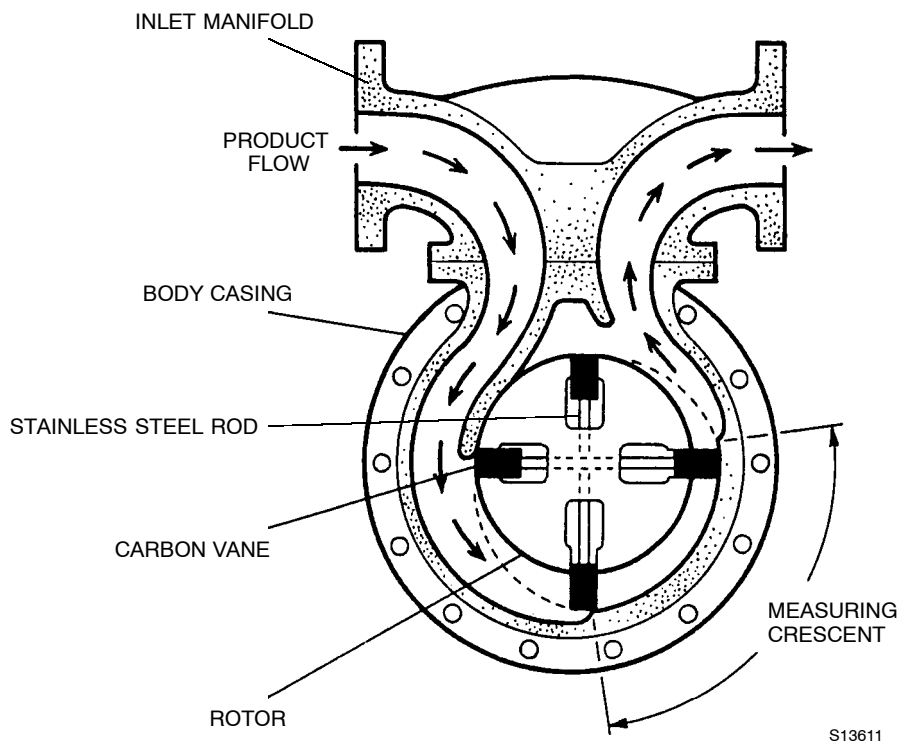

FIG 2.2 BULKMETER OPERATION
- 3.1 The body assembly comprises a body casing with front and rear double end covers. The body casing of NI-resist cast iron forms the metering compartment and is machined internally on two concentric diameters which are joined by blending radii. The larger diameter forms the measuring crescent (Figure 2.2) and the blending radii are machined out to form the inlet and outlet ports.